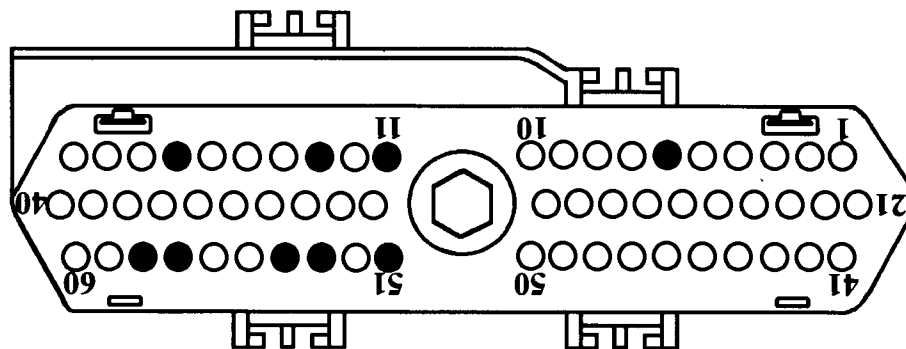

Figure 6
**Special Note: 1993 and later vehicles do not use terminals 54 and 58 for ground wires. Refer to Figure 6 for the controllers main ground wires per vehicle year and application.**